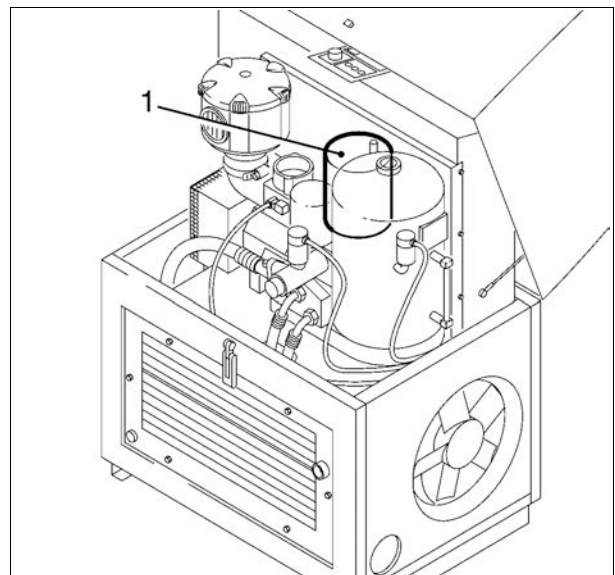

Fig. 19
- Unscrew the fine separator cartridge (-1- Fig. 19) using an appropriate tool